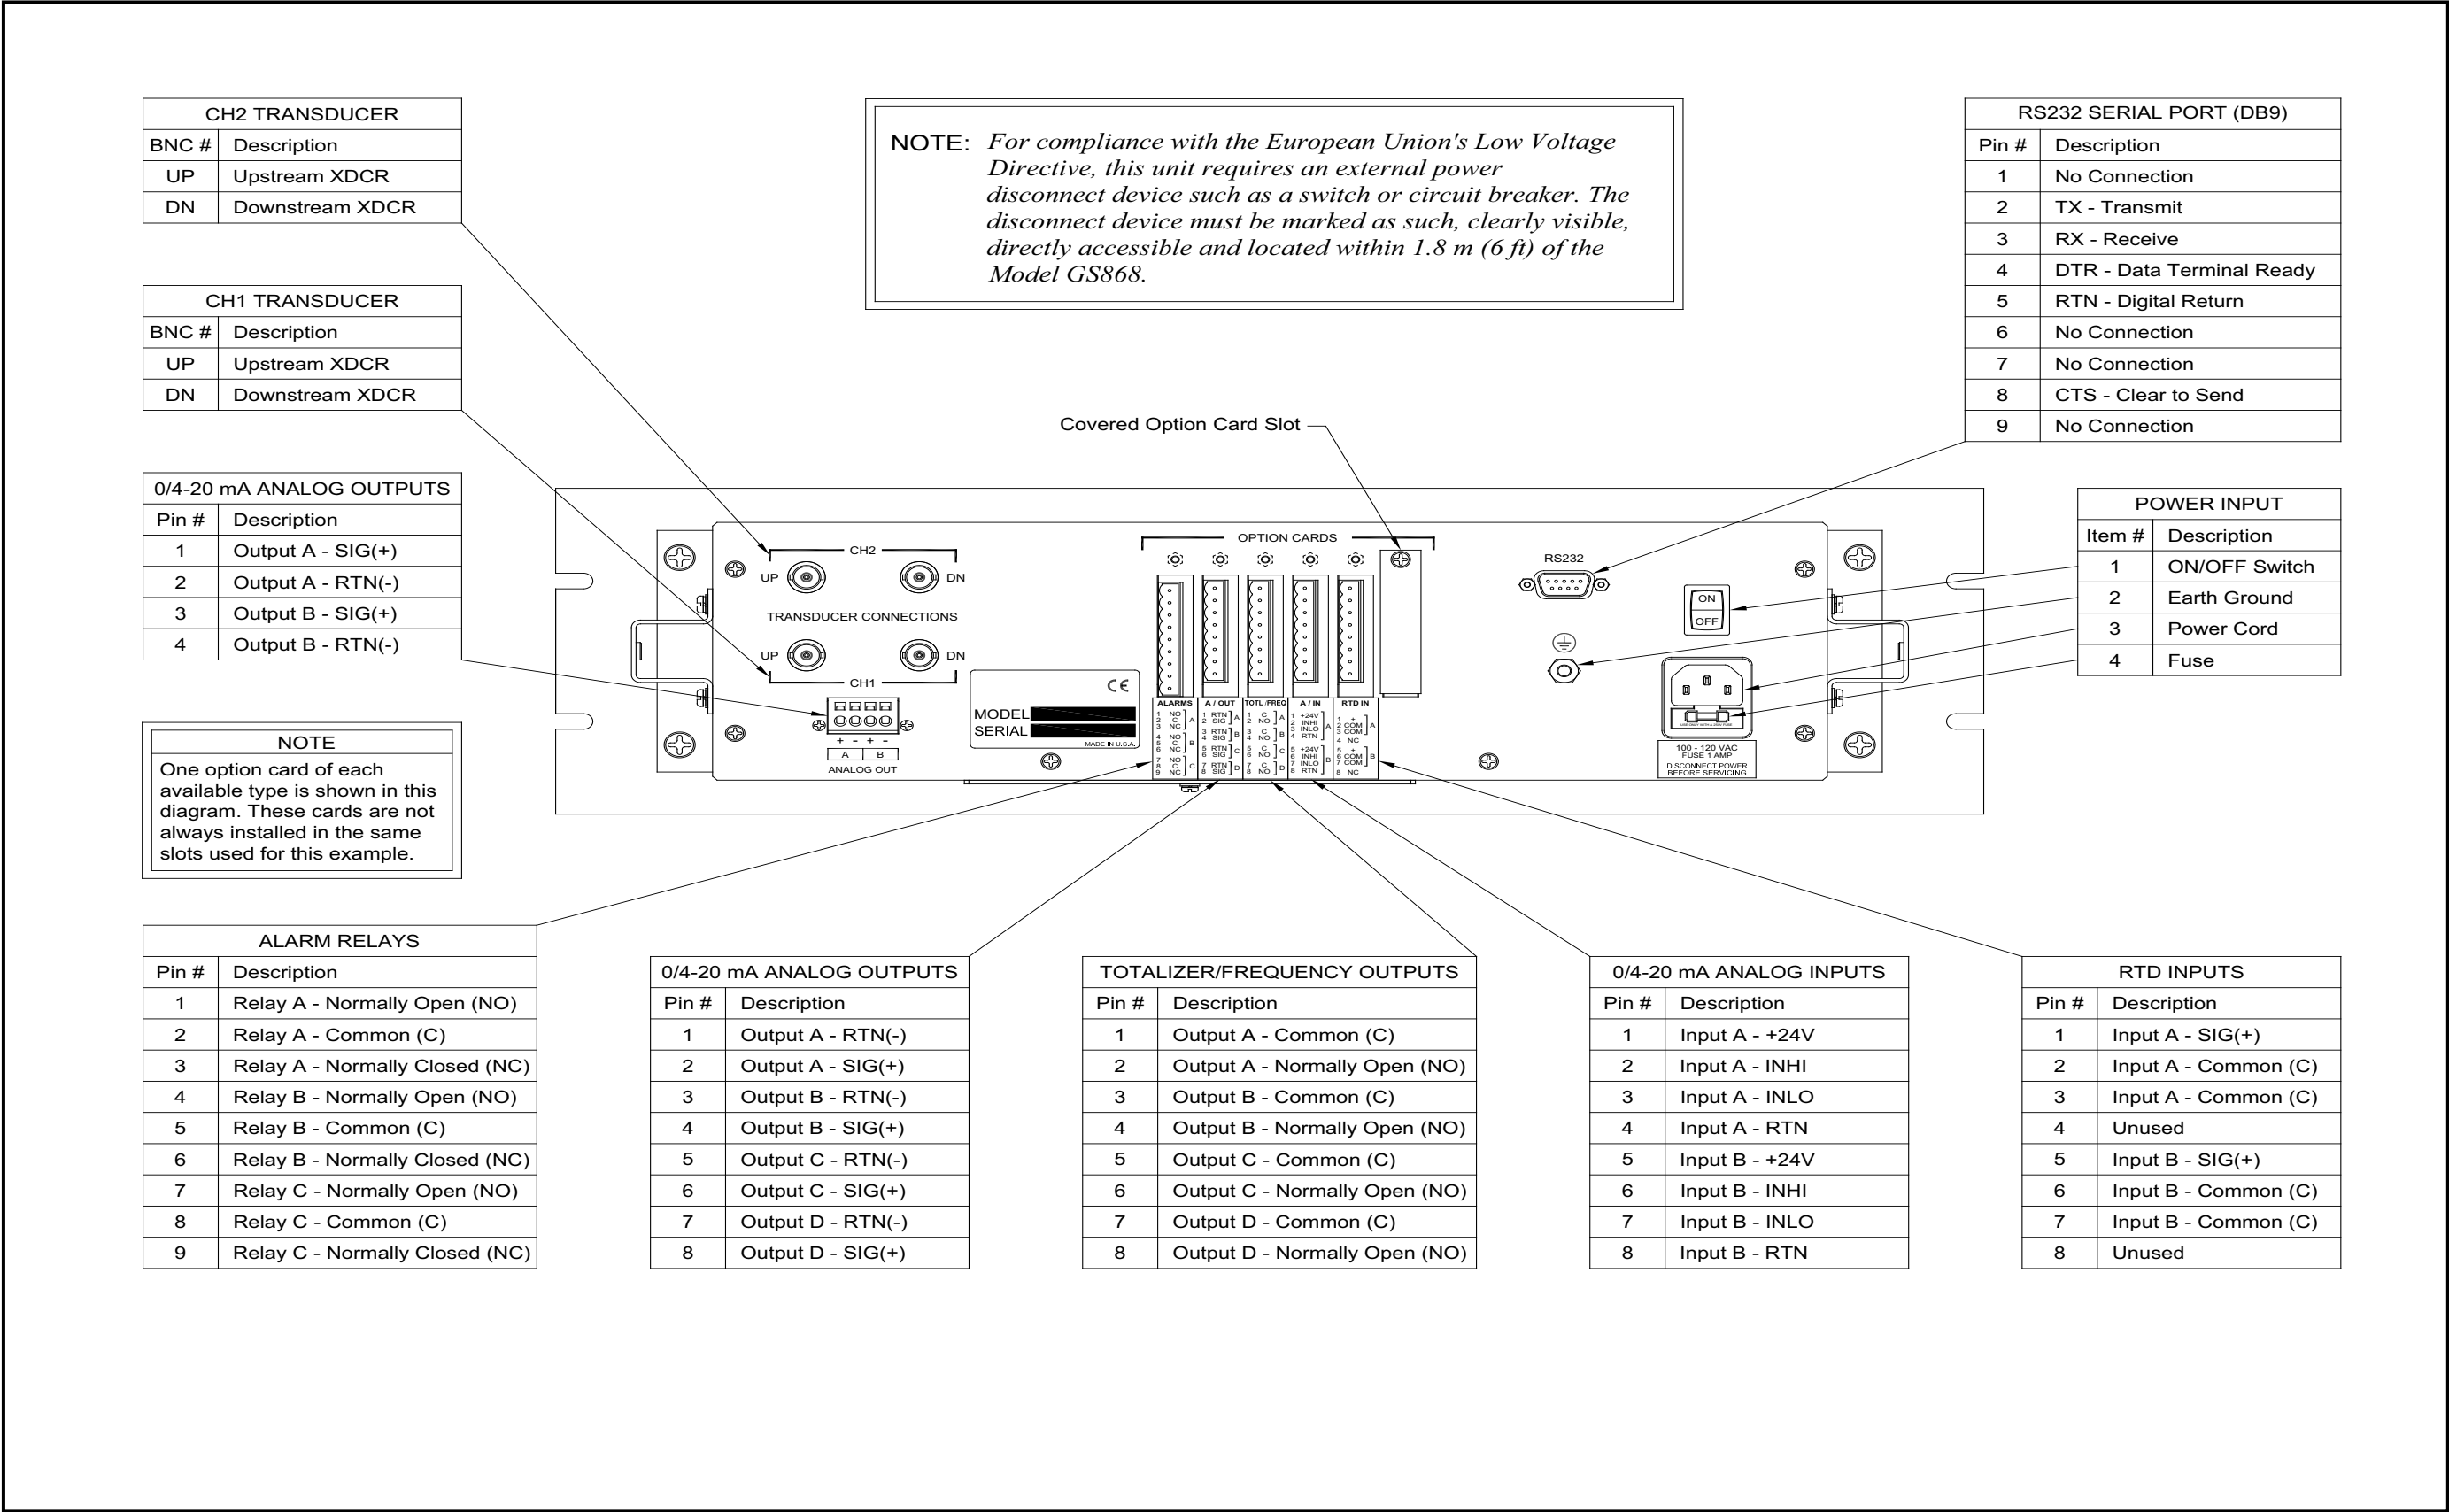

Figure 16: Model GS868 Rack Mount Enclosure – Wiring Diagram
The rack mount Model GS868 requires exactly the same electrical connections as the standard version. However, the locations and type of connectors used for the various components are different. Refer to *Figure 16 on page 52* and complete the following steps:
- a. Purchase or prepare a suitable serial cable. This cable should have a standard female DB9 connector, wired as shown in *Figure 16 on page 52*, for connection to the rear panel of the Model GS868. The other end should be as required for the external device.
5. Wire any installed *option cards* using the same procedures described in *Chapter 1, "Installation"*, of this manual and the pin # assignments shown in *Figure 16 on page 52*.